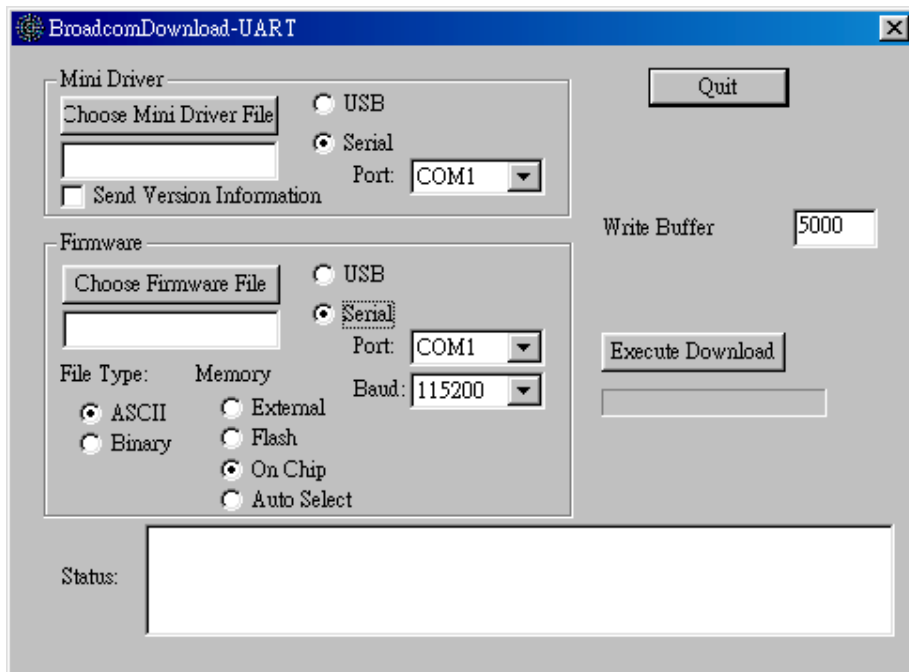

Figure 3: Downloader Configuration for UART Interface
3. Double click on **BroadcomDownload.exe** to start the program; in the **"Mini Driver"** box, select **"Serial"** and select a serial port **"COM1"**. (as Figure 3)